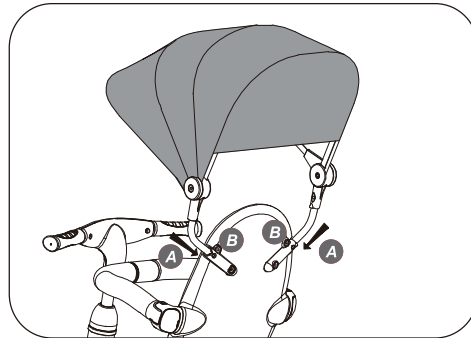

Fig. 14
18. Insert the Canopy Posts **A** through the openings on the back side of the Trim Cover. Push the Canopy Posts into the Canopy Post Anchors **B** until hearing a “click” (See Fig. 14).